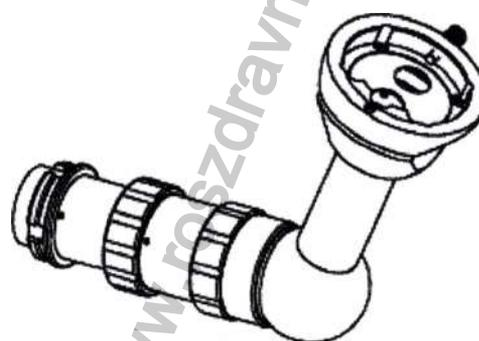

Fig. 25
13.4 Observation bridge for the assistant with inclined head. (fig.25)